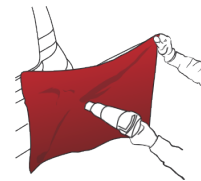
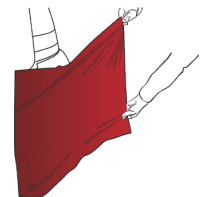
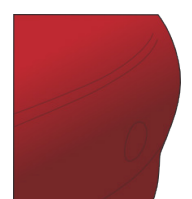

Figure 12
Figure 13
Figure 17
- › Heat the vinyl to a temperature ranging from 40 °C to 50 °C (from 104 °F to 122 °F) (FIG. 12) (from 30 °C to 40 °C (from 86 °F to 104 °F) for the HX45CA890B, HX45CA891B, HX45CA892B), then stretch the film so as to completely wrap the convex surface. (FIG. 13)
- › The application is complete. (FIG. 17)
! In regard to SKINTAC HX45000 films with structured effects (carbon effect), particular care must be taken when heating the stretched film. (FIG. 12) to (FIG. 17) The hot air gun or the gas torch must never be held at a right angle to the surface of the film. It should be inclined so as to heat a larger surface area. Keep the hot air gun moving all the time. Never heat a small surface area over a prolonged period.